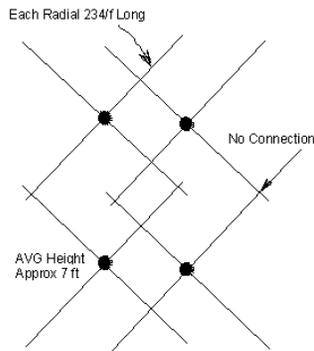

Fig 2—Elevated radials (top view).
In our configuration, each vertical has four elevated radials (see **Fig. 2**), each a quarter wavelength long. Each vertical is connected to the phasing box through quarter-wave lines of 70-ohm RG-11. The phasing box is mounted on a tower leg, at the base of the tower, and a dummy load is connected to the phasing box. The dummy load at W1WEF is actually in the shack, with 50-ohm coax going from the phasing box to the dummy load. This allows a watt meter in the shack to monitor power that is “dumped” into the dummy load.
5. Radials may cross each other in a pattern as shown in **Figure 2**. The radials are not connected together where they cross. Length is $234/f$, minus about 2% when insulated wire is used. Fourteen gauge insulated stranded wire is fine for radials.